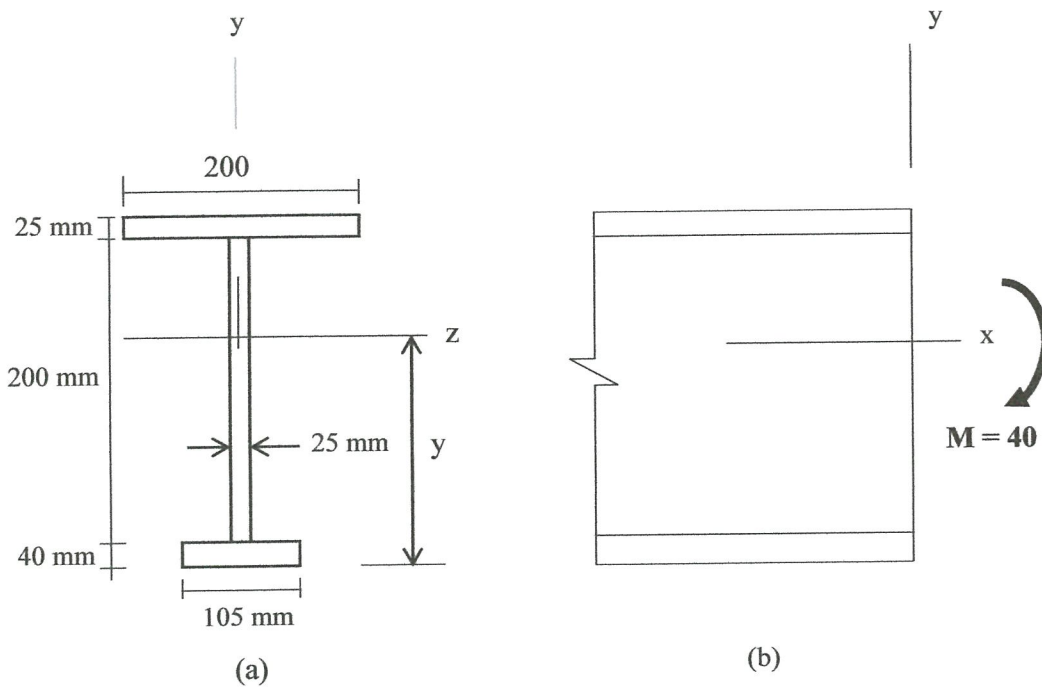

FIGURE Q2
- (b) **Figure Q2(a)** shows a cross sectional diagram of a beam with its dimensions. The beam is subjected to a negative bending moment of 40 kNM, as given in **Figure Q2(b)**. To determine the maximum bending stresses of the beam, calculate.